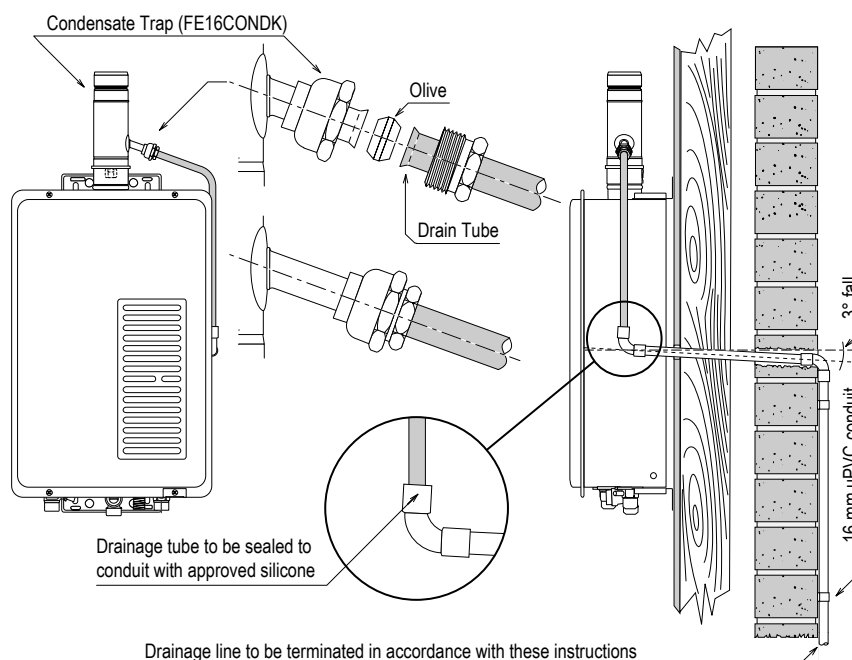

Fig.8
7. If the total vertical rise of a flue installation exceeds 2 metres a Condensation Trap / Drainage **MUST BE** fitted (Fig.8).
1. Connect the aluminium drain tube to the condensate trap with compression union, ensuring the supplied olive is correctly seated and the joint sealed with approved sealant (**Fig.8**).